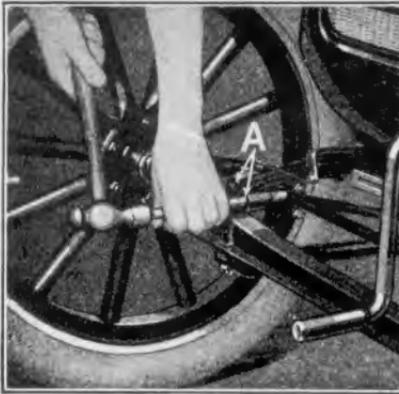

Fig. 377
- 682 Examine bushings in spring and perches for wear. If bushings are worn they should be replaced. The old bushings are removed by driving them out with a driver and the new bushings installed by driving them in (See Figs. 377 and 378).
- 712 Drive spring perch bushings out of spring and perches with a bushing driver (See "A" Fig. 377).